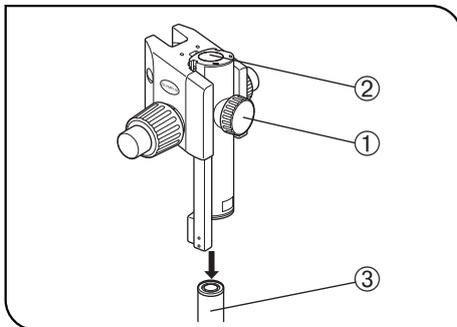

Fig. 16
2 Mounting the Focusing Assembly (Figs. 16 & 17)
1. First loosen the focusing assembly clamping knob ① completely and, while holding the focusing assembly with both hands, insert the pillar ③ into the mounting hole ② from below. (Fig. 16)
2. Lower the focusing assembly until it stops, then tighten the focusing assembly clamping knob ①. (Fig. 16)
★ If the clamping knob ① is tightened while the pillar ③ is not completely inserted into the mounting hole ②, the plate spring supporting the pillar will deform and the pillar will not be able to penetrate into the hole. (Fig. 16)